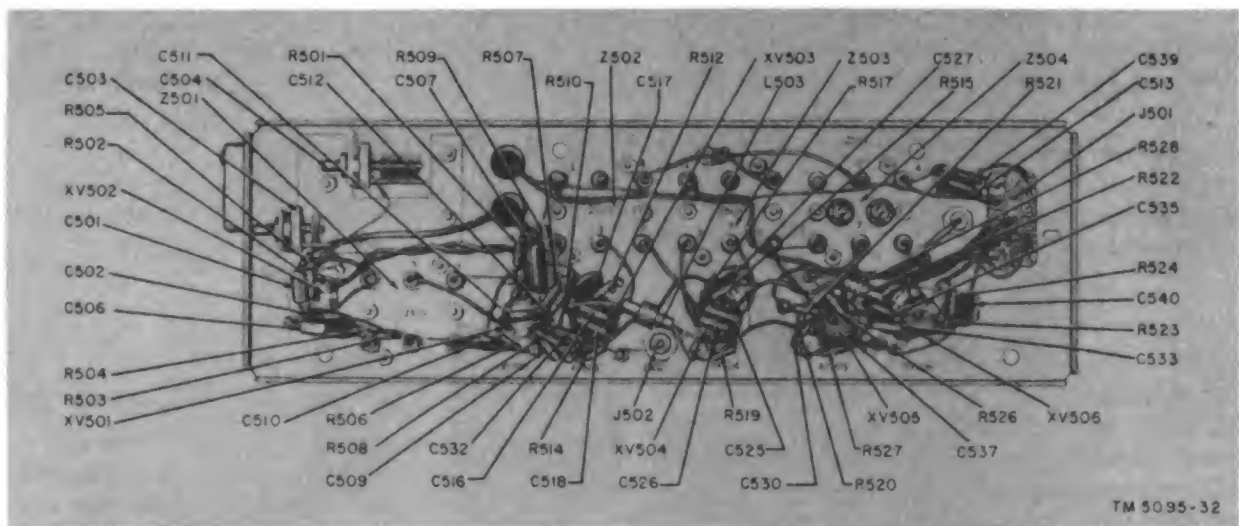

Figure 37. Frequency Meter FR-5/U, crystal oscillator, location of parts, bottom view.
- (4) Adjust tuning slug *B* in Z504, accessible from the underside of the chassis (fig. 37) for maximum output.
- (5) Adjust tuning slug *C* in Z504, accessible from the underside of the chassis, for maximum output.
a. Set the frequency of a signal generator to 1.2 mc and connect the generator and a multimeter across terminals 4 and 5 of Z502 (fig. 37). Vary the frequency of the generator a few kc above and below 1.2 mc; maximum reading on the meter should be at 1.2 mc.
terminals 4 and 5 of Z503 (fig. 37). Vary the frequency a few kc above and below 400 kc; maximum reading on the meter should be at 400 kc.